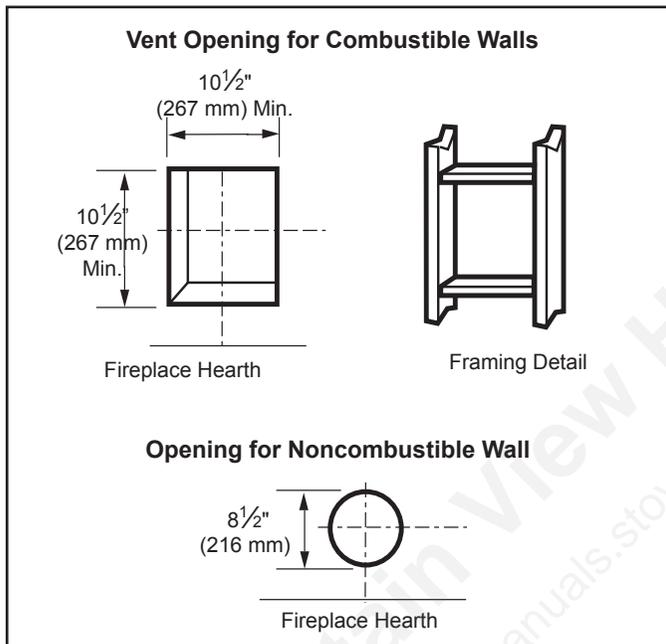

Figure 5.2 Locate vent opening on wall
Locate vent opening on the wall. It may be necessary to first position the fireplace and measure to obtain hole location. Depending on whether the wall is combustible or noncombustible, cut opening to size. See Figure 5.2 (For combustible walls first frame in opening.)
**Combustible Walls:** Cut a 10½"H x 10½"W (267 x 267 mm) hole through the exterior wall and frame as shown. See Figure 5.2.